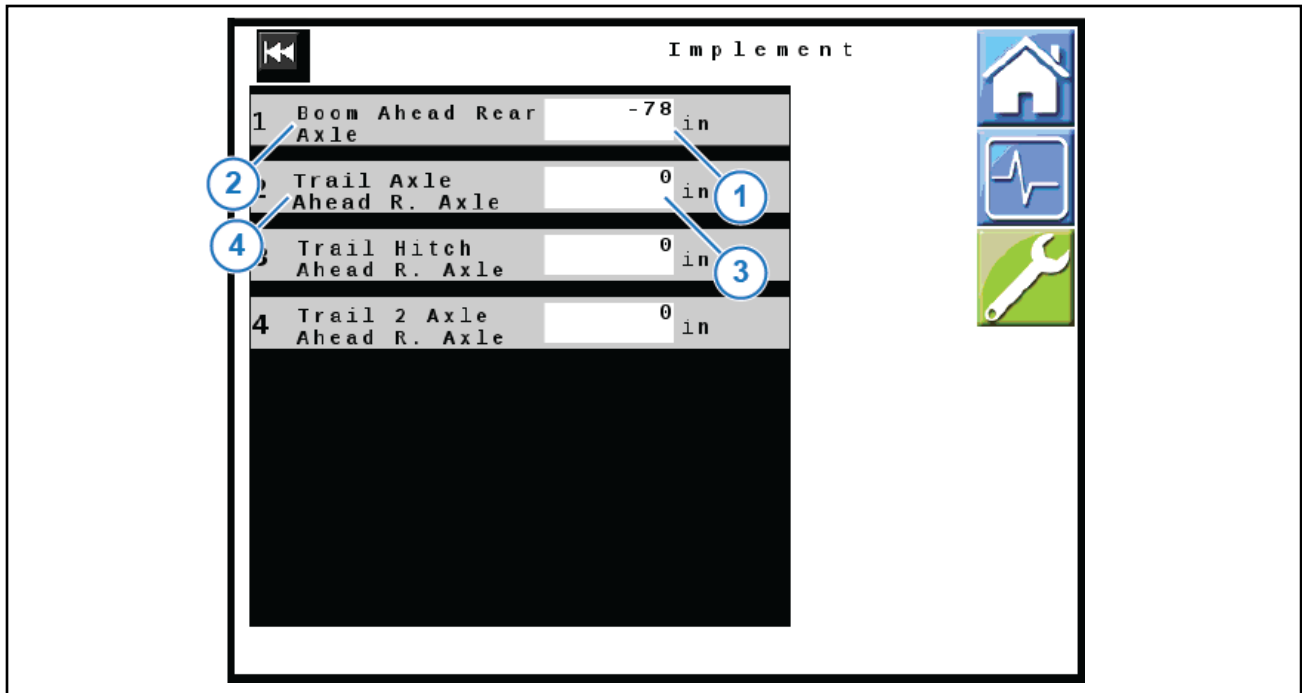

Figure 24: Implement Screen
8. Select the box (Figure 24, Item 1) next to Boom Ahead Rear Axle (Figure 24, Item 2).
10. Select the box (Figure 24, Item 3) next to Trail Ahead Rear Axle (Figure 24, Item 4).